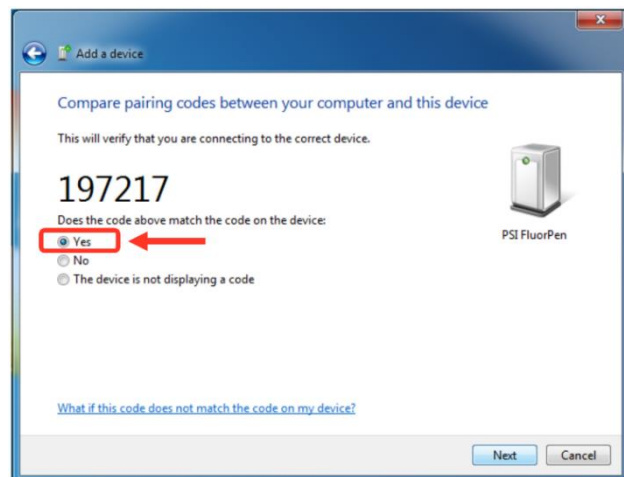

Fig. 11 Verifying of the Bluetooth pairing.
- Select: Yes (Fig. 11). Please note that the N-Pen device does not display the verification number. The verification code is not important for the BT connection.